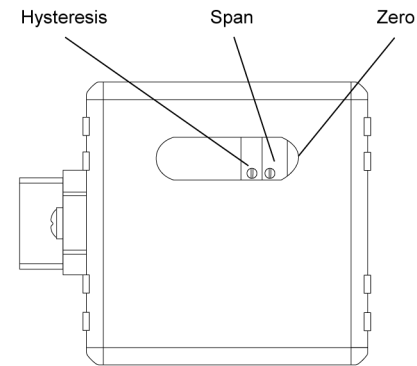

FIGURE 1
4. Locate the plastic calibration access cap on top of the QBX valve and completely remove it. Located underneath are two adjustment trim pots, Zero "Z" and Span "S". See figure 1 for pots location.